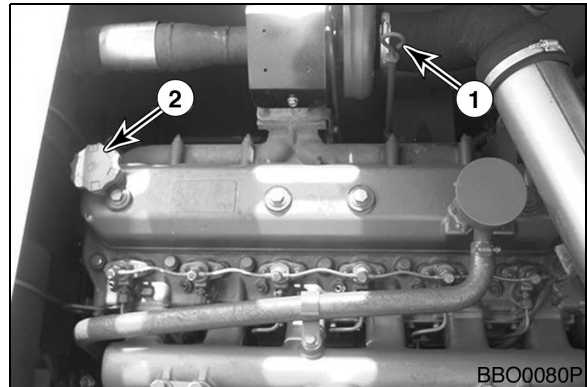

Figure 11
2. Remove dipstick (1, Figure 11) and wipe the oil off with a clean cloth.
5. Add oil through engine oil fill cap (2, Figure 11), if the oil level is below the "LOW" mark.